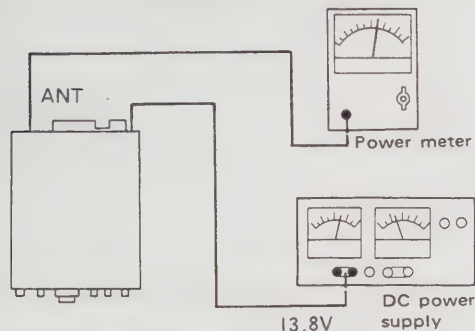

Fig. 26 Adjustment of GEN Unit
- (2) For connections refer to **Fig. 26**.
- (3) Connect RF VTVM to GEN terminal.
- (4) Adjust T-3 for maximum, approx 0.2V RMS, and record this value.
- (5) Set Mode switch to CW, adjust ALC control, (VR-2 on Mix unit) to minimum ALC.
- (6) Adjust T-1 and T-2 for maximum.
- (7) Adjust VR-5 (CW Carrier Level) for the same value of RF as recorded in previous step (4)